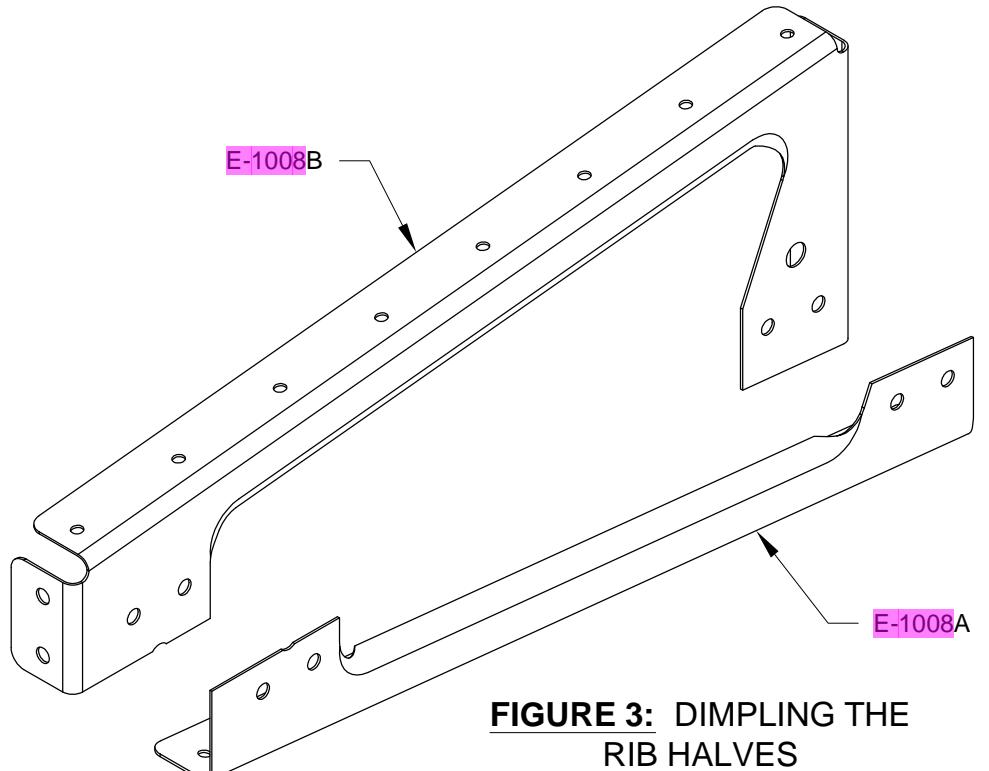

FIGURE 3: DIMPLING THE RIB HALVES
Step 3: Dimple the flanges of the E-1008A & B Rib halves, shown in Figure 3, to accept the dimples in the skins.